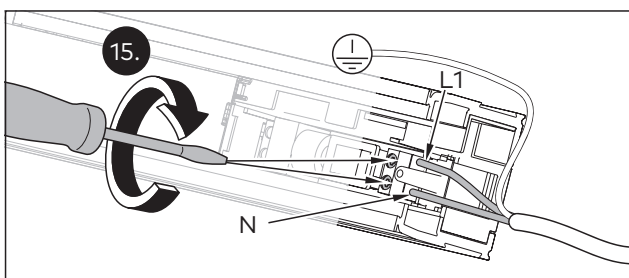

Fig. 21 Connect wires L1 and N.
- 15.** Connect wires L1 and N of the Y-cable to the mains terminals of both drives (Fig. 21).